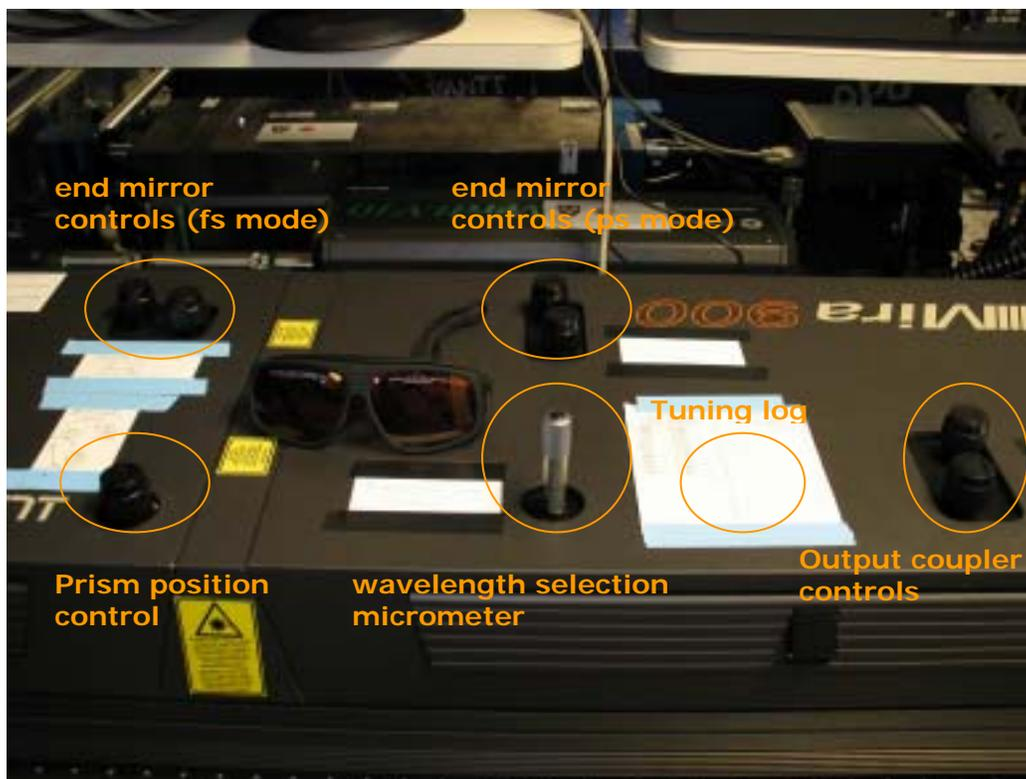

Figure 7: Ti:Sa laser cavity controls.
- 5.3.11. Identify the Ti:Sa laser cavity controls (Figure 7): fs end mirror, prism position, wavelength selection and output coupler controls.
- 5.5.3.1. SLOWLY turn the wavelength selection micrometer (Figure 7) to change the wavelength in steps of 10-20 nm.